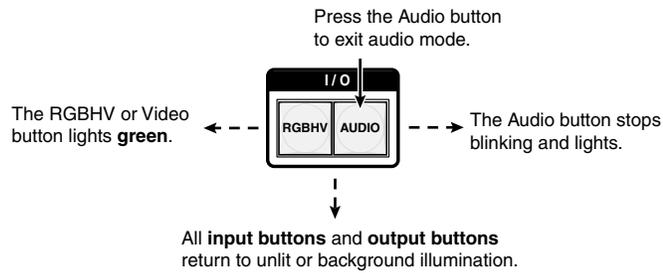

Figure 3-74 — Deselect Audio mode
5. Press and release the Audio button (figure 3-74).